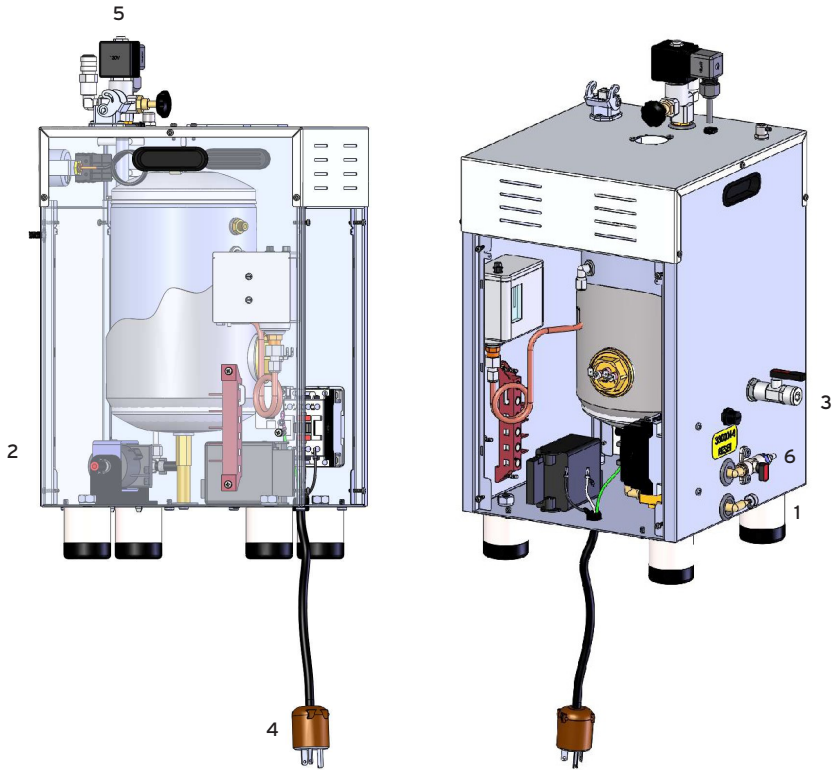

Fig. 5
1. Water connection (tap with hose holder); the steam generator can be connected to the tap with hose holder labelled WATER INLET (fig. 5 #1), placed on the Boiler, via a rubber tube which must have a pressure capacity of at least 100 lbs. This rubber tube must be fixed tightly with 2 hose clamps. (NOTE: before inserting the rubber tube into the water inlet, you must flush a few litres of water in order to clean the conduit).
3. After switching on the Boiler (A) and the irons and the steam switch (B), wait for the Boiler green pilot light to switch off (C) and for the pressure gauge to indicate 50-60 lbs. At this point press the steam button 3 or 4 times, so that the steam comes out: this must be carried out in order to heat up the hose that delivers steam to the iron steam wand/nozzle. This prevents water leakage (the steam iron must always be held in such a way as not to harm the operator).
4. To adjust steam flow, regulate the steam adjustment tap (fig. 5 #6: solenoid valve).
5. The Boiler is now ready for use. During use, the “steam ready” pilot light switches on and off (C).
- Insert the silicon hose on the water container valve (fig. 5 #6) and place the opposite end into the water tank.
- Insert the other silicon hose on the water inlet (fig. 5 #1), placing the other end into the water tank.